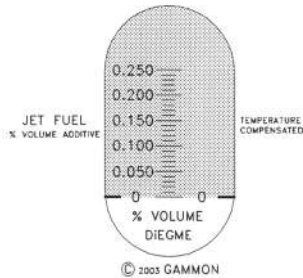

Figure 1
- STEP 3** For the optical refractometer, open the cover of the refractometer window, make certain it is clean, and apply one or two drops of water to it from the aluminum dish. Close the cover and look through the eyepiece to observe the location of the shadow line on the graduated scale. The eyepiece can be rotated for clarity. Adjust the set screw (in the middle of the nameplate) so that the shadow line intersects the zero line of the scale. See Figure 1 for a typical condition of a correctly zeroed instrument. Clean the cover and window.